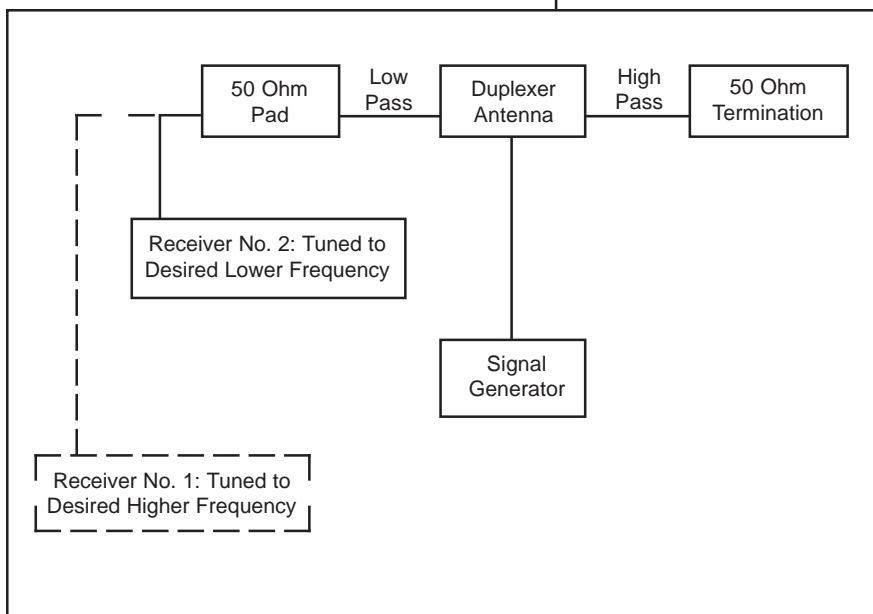

Figure 3b - Field Tuning
9. Connect equipment as shown in Figure 3b.